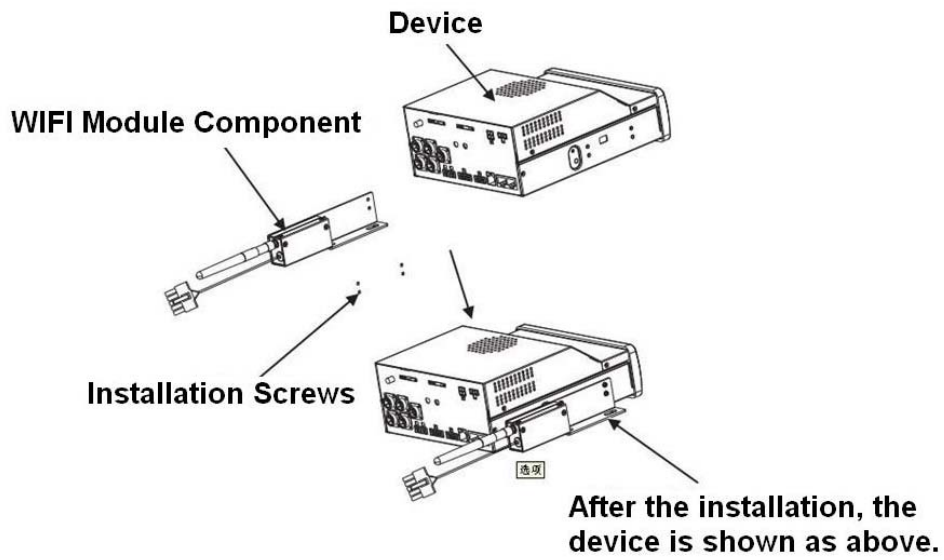

Figure 2-8
Step 2: Install WIFI module on the device. See Figure 2-8.